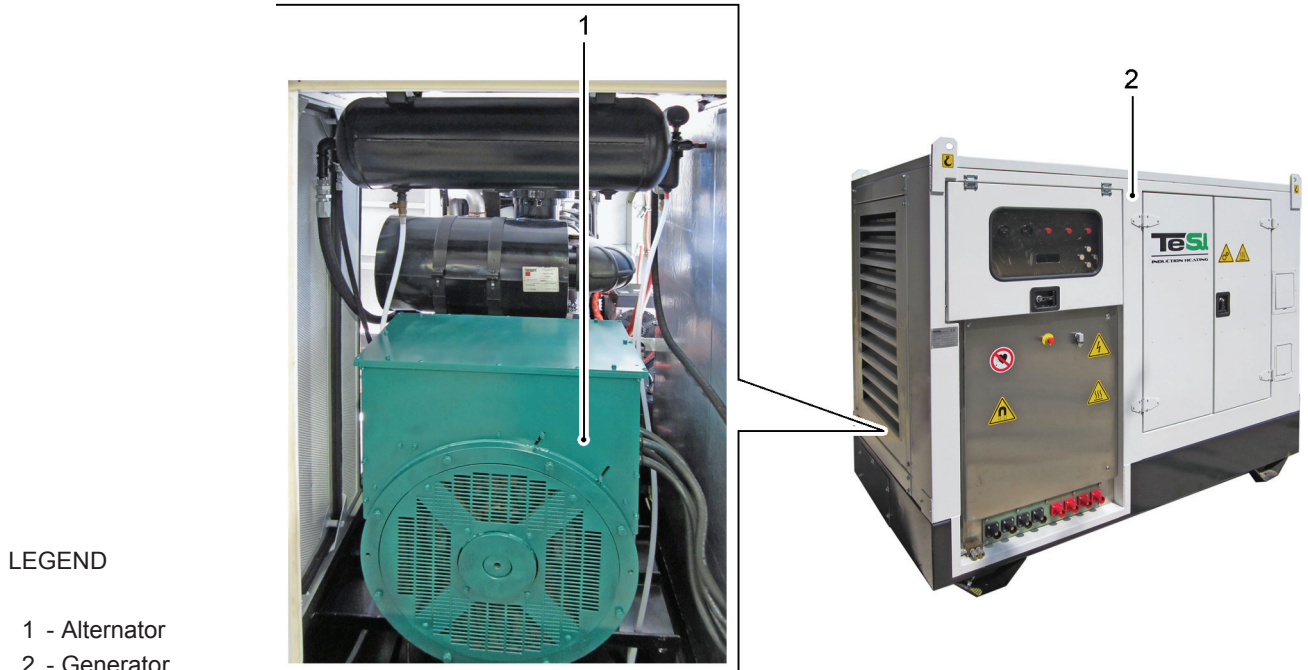

Figure 6.19 - Generator and alternator
Setting the power supplied by the generator (see Figure 6.19/2) means setting the current supplied by the alternator (1).